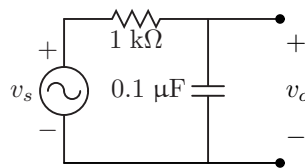

Figure 1: Low-pass filter
1. Write a netlist for the circuit in Figure 1, a simple RC low-pass filter. Let v_s be a 1 kHz square wave oscillating between 0 V and 5 V. You can model this square wave using the PULSE source type.